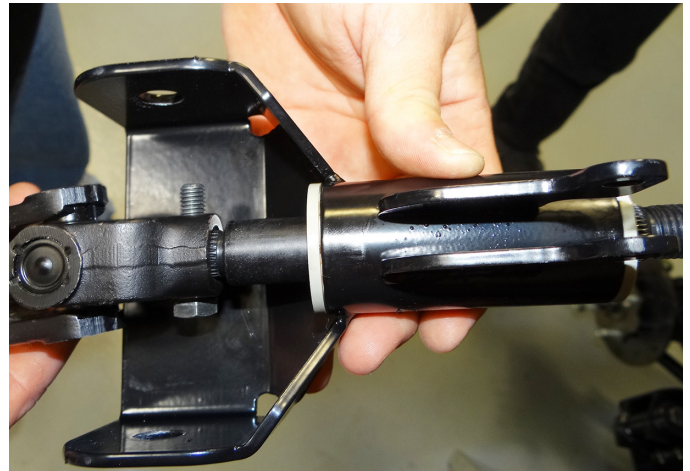

Fig. 25 Steering Column Assembly
4. Remove the steering wheel (Ref. Fig. 25).